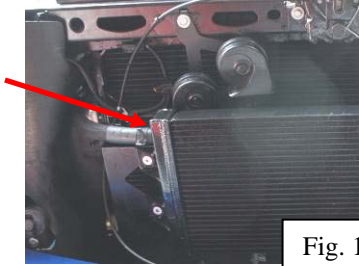

Fig. 1
2. Disconnect the inlet hose from the heat exchanger and drain as much coolant as you can (Fig. 1).